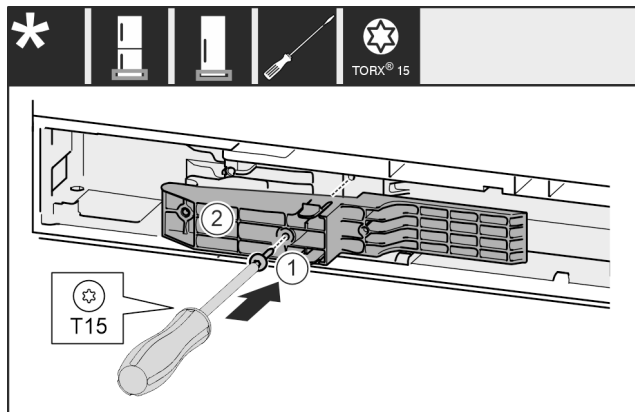

Fig. 47*
- ▶ Insert adapter *Fig. 47 (1)* in the recess on the handle side.*
- ▶ Tighten screw *Fig. 47 (2)* with screwdriver.*